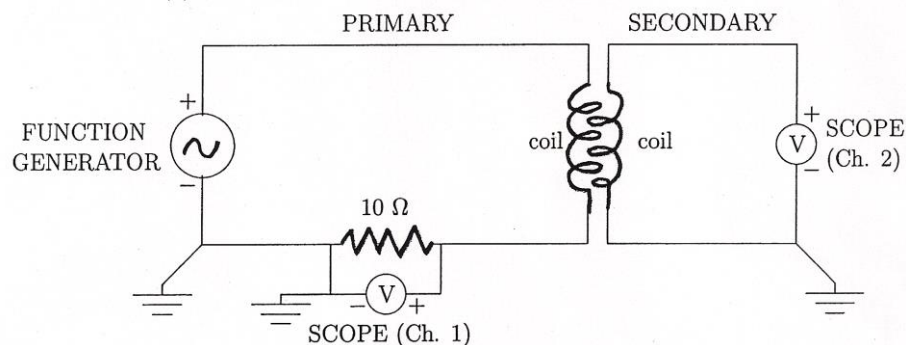

Figure 2: Schematic of the setup of the primary and secondary circuits.
1. Construct the following pair of circuits (See **Figure 2.**): (1) Primary circuit – It consists of a series combination of the function generator, the primary coil (tape-covered coil of wire with a rod sticking out of one end), and 10- Ω resistor (the voltage across which is being monitored by Channel 1 of the oscilloscope). Note that the black alligator clips on the wire running to the function generator and on the wire running to the scope must be located at the same spot on the primary circuit owing to the fact that both the generator and the scope are “grounded” ; otherwise, you circuit will not work. Note also that the voltage across the resistor will numerically equal ten (10) times the current flowing through this, owing to the value which we have chosen for R. (2) Secondary Circuit – It consists solely of the secondary (copper) coil, the voltage across which is being monitored by Channel 2 of the oscilloscope.